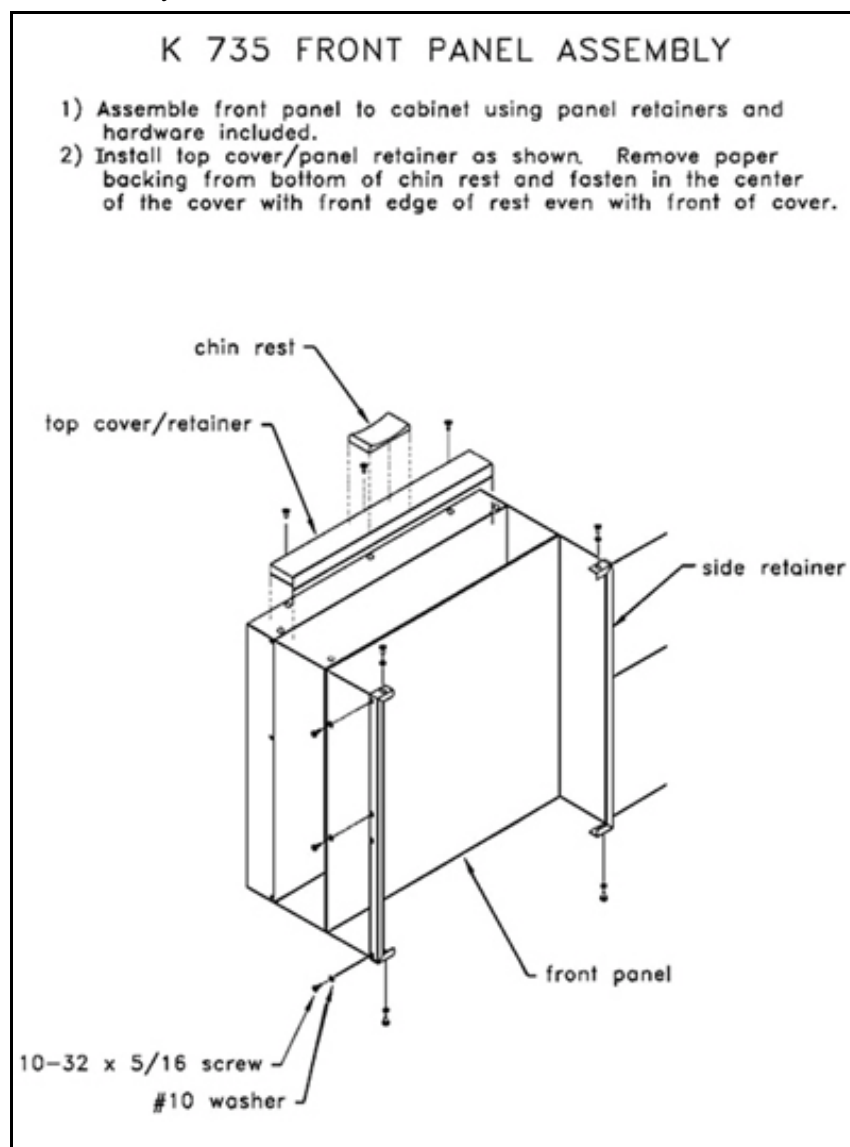

Figure 2-15. Front Panel Assembly
- 15** Follow the directions in Figure 2-15 below to assemble the front panel on the bucky.